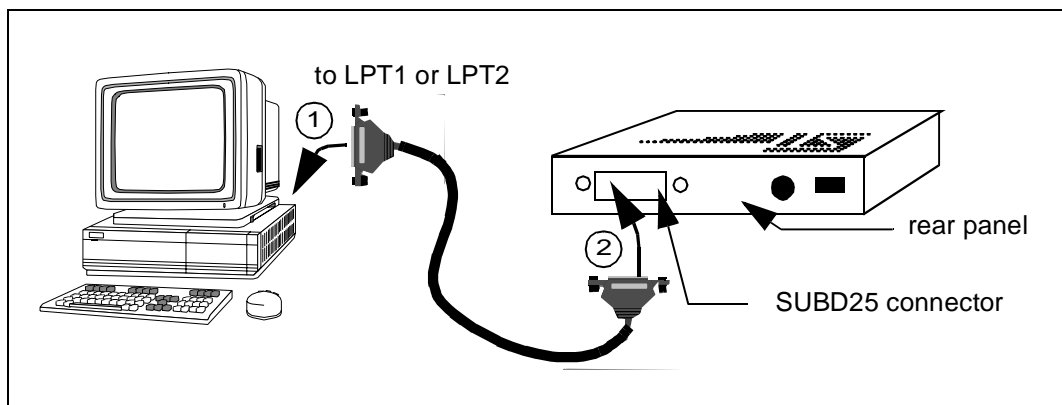

Figure 3: Connecting the emulator to the PC
- 2 Connect one end of the parallel cable to the mainboard casing's rear panel 25-pin SUB-D connector and the other end to one of the PC's parallel ports (LPT1 to LPT2)—refer to Figure 3.